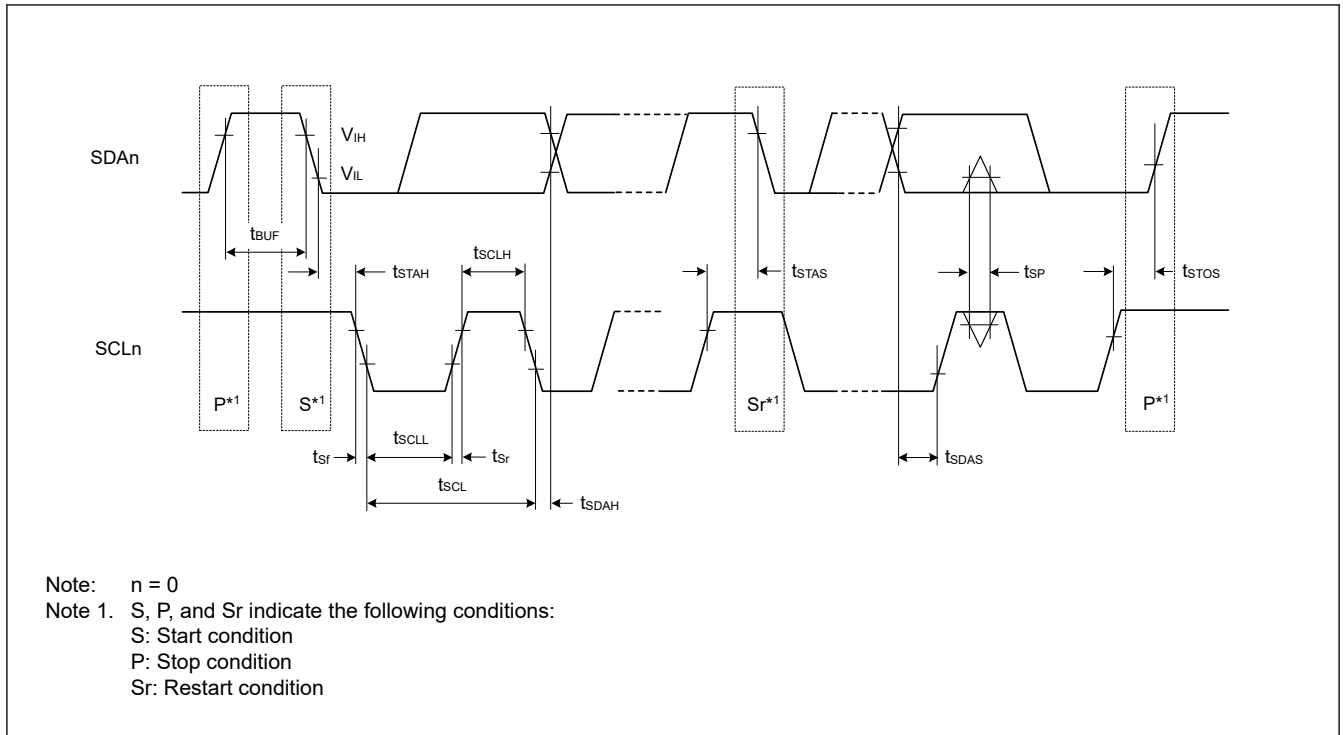

Figure 2.42 I²C bus interface input/output timing
| IIC (Standard mode, SMBus) ICFER.FMPE = 0 | SCL input cycle time | t_{SCL} | $6 (12) \times t_{IICcyc} + 1300$ | — | ns | Figure 2.42 |
| IIC (Fast mode) | SCL input cycle time | t_{SCL} | $6 (12) \times t_{IICcyc} + 600$ | — | ns | Figure 2.42 |
| IIC (Fast-mode+) ICFER.FMPE = 1 | SCL input cycle time | t_{SCL} | $6 (12) \times t_{IICcyc} + 240$ | — | ns | Figure 2.42 |